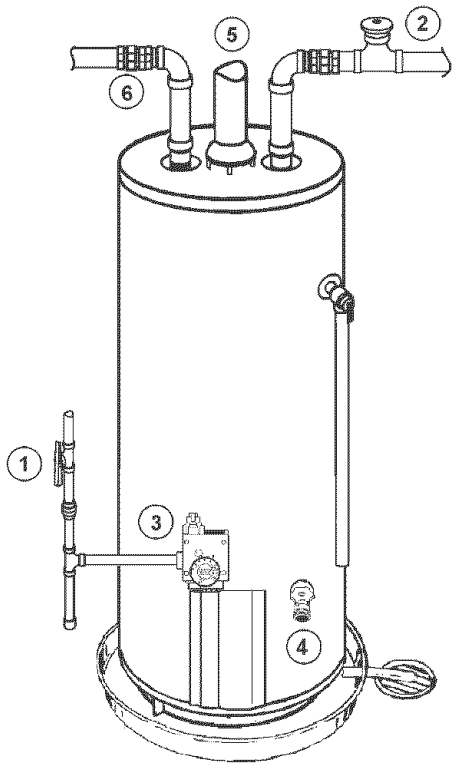

FIGURE 2.
If the main gas line shutoff valve serving all gas appliances is used, also shut "OFF" the gas at each appliance. Leave all gas appliances shut "OFF" until the water heater installation is completed, see Figures 2 and 3.
2. Turn "OFF" the water supply to the water heater at the water shut off valve or water meter. Some installations require that the water be turned off to the entire house, see Figures 2 and 4.
4. Attach a hose to the water heater drain valve and put the other end in a floor drain or outdoors. Open the water heater drain valve. Open a nearby hot water faucet which will relieve pressure in the water heater and speed draining. The water passing out of the drain valve may be extremely hot. To avoid being scalded, make sure all connections are tight and that the water flow is directed away from any person, see Figures 2 and 5.